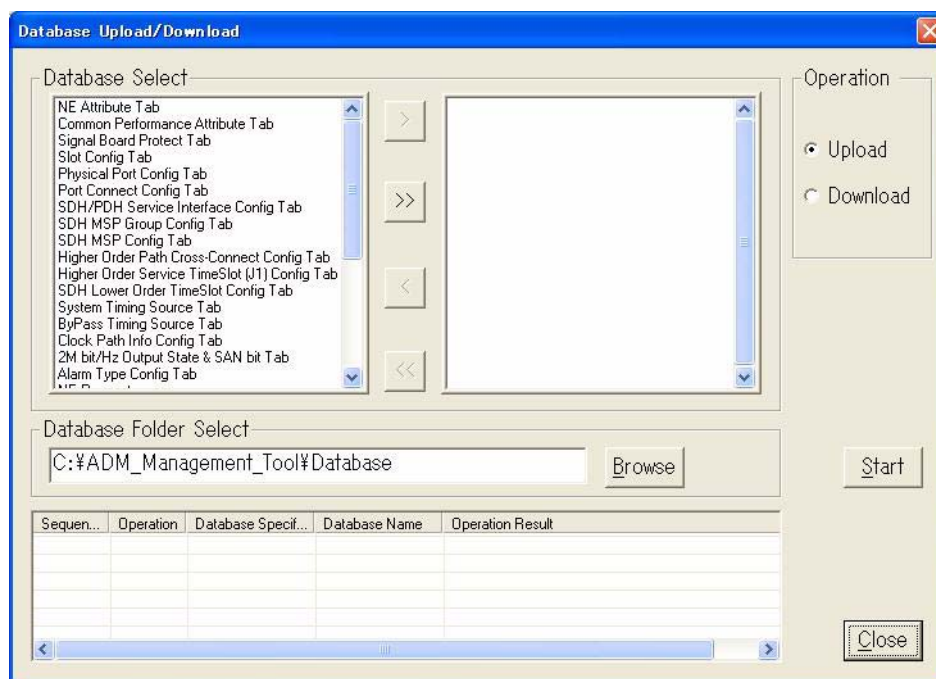

Fig. 4-8-1 Database Upload/Download Dialog Box
The configuration database items that can be uploaded/downloaded are listed in the following table in alphabetical order. These are listed in the **Database Select** text box of the **Database Upload/Download** dialog box (see *Fig. 4-8-1*).
- 3 Select **Database Upload/Download** from the **File** menu. The **Database Upload/Download** dialog box shown in *Fig. 4-8-1* appears: